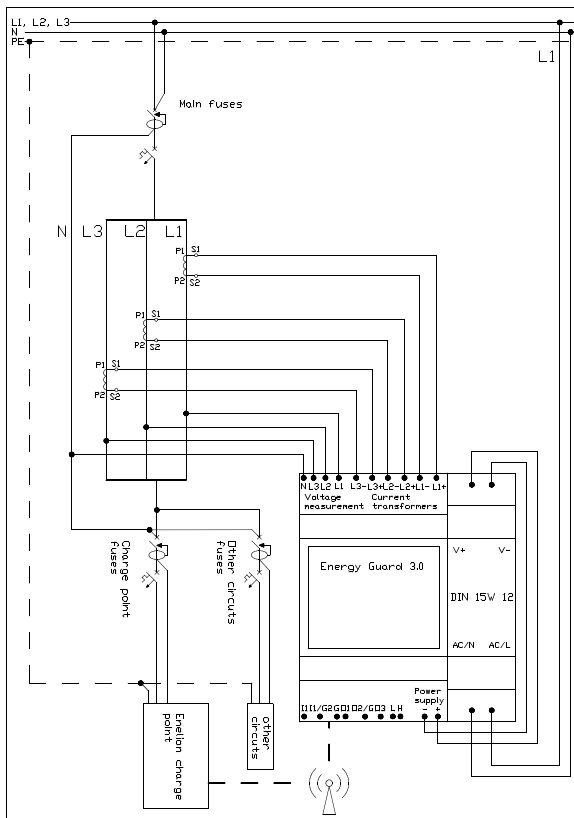

Fig. 3: Connection diagram of EEG for measuring the entire connection along with charging terminals.
There is the option to choose the installation location for the measurement transformers. They can be installed on the power cables supplying the building's load along with the charging stations [Figure 3] or on the power cables supplying only the building's load [Figure 4].
The first method is to install them on the main incoming power cables to the distribution board. As a result, EEG will measure the current for the entire connection [Figure 3].
1. „All power equipment,” which measures the entire connection, including charging stations [Figure 3].